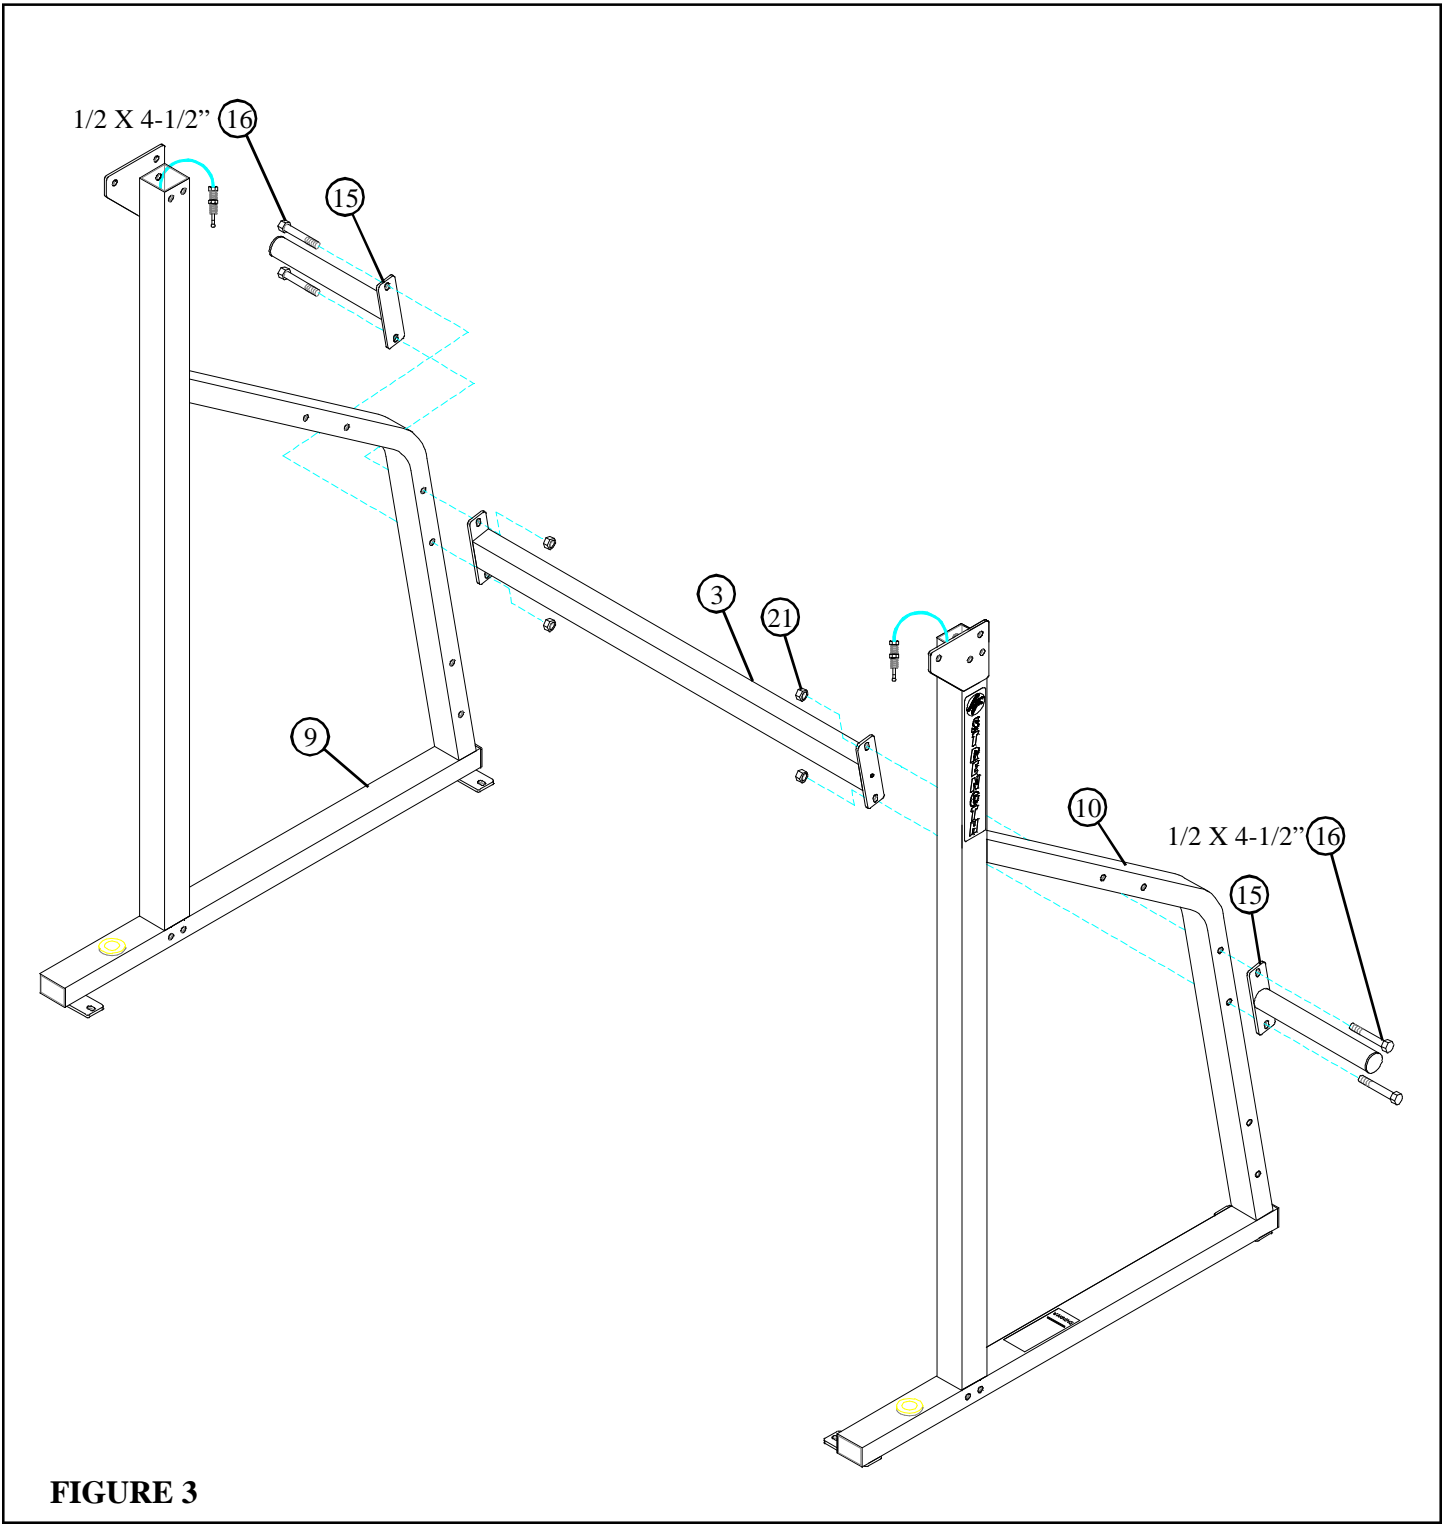

FIGURE 3
- **LOOSELY** assemble the LOWER SUPPORT (3) and two PLATE HOLDER (15) to the LEFT & RIGHT UPRIGHTS (9& 10) using four 1/2 X 4-1/2" BOLTS (16) and four 1/2" LOCK NUTS (21) as shown in FIGURE 3.